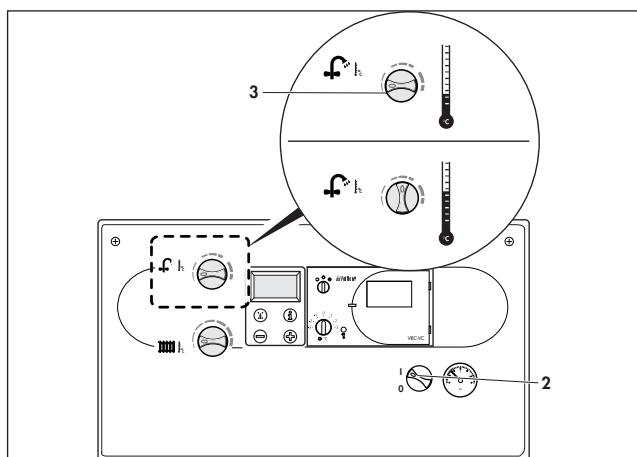

Fig. 3.5: Domestic hot water supply
- Turn the main switch (2, Fig. 3.5) to the "I" position.
- The domestic hot water temperature can be adjusted using the hot water temperature control (3, Fig. 3.5).
If you live in a hard water area please do not set the control knob above the mid (12 o'clock) position to prevent excessive scale formation (fig. 3.5).